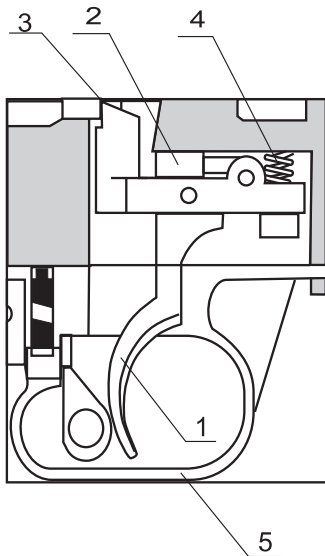

Fig. 3 – Triggering mechanism
6. Function of the triggering mechanism (Fig. 3) is to retain the striker in cocked position when the bolt is locked and to release it at pulling the trigger.